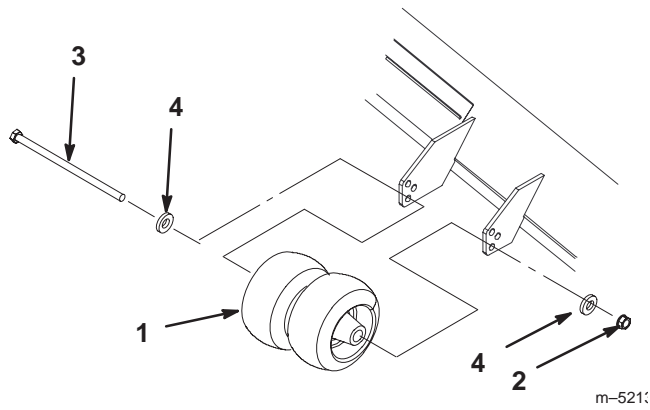

Figure 19
1. After adjusting height-of-cut; remove bolt, washers and nut (Fig. 19).
2. Select a hole position so the gage wheels are a minimum of 3/8 in. (9.5 mm) off the ground for the height-of-cut to be used (Fig. 19).
3. Reinstall the bolt, washers and nut (Fig. 19).